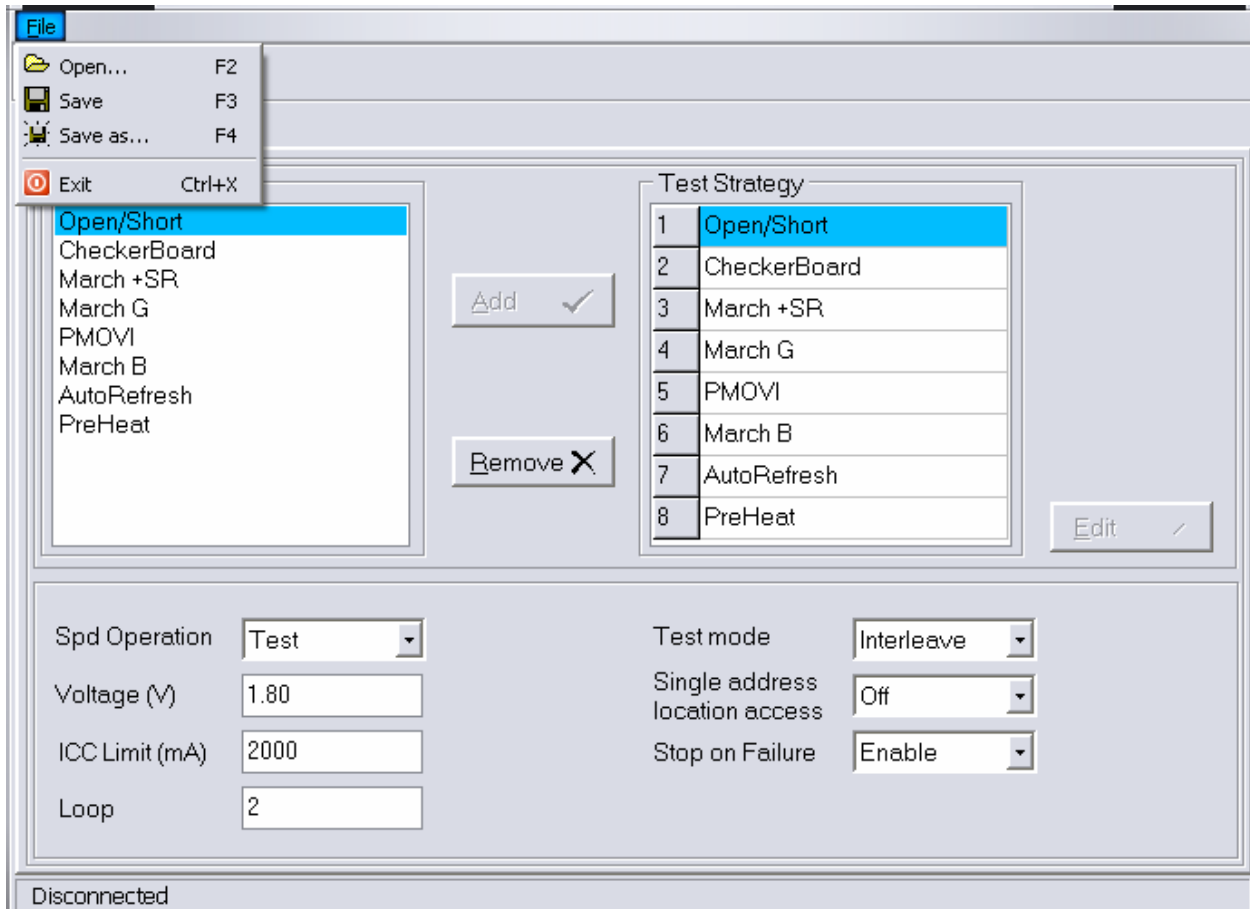

Fig. 36
Step 3: Once all the modifications have been finished, user can save the test logics sequence by four simple ways. (Fig. 36)